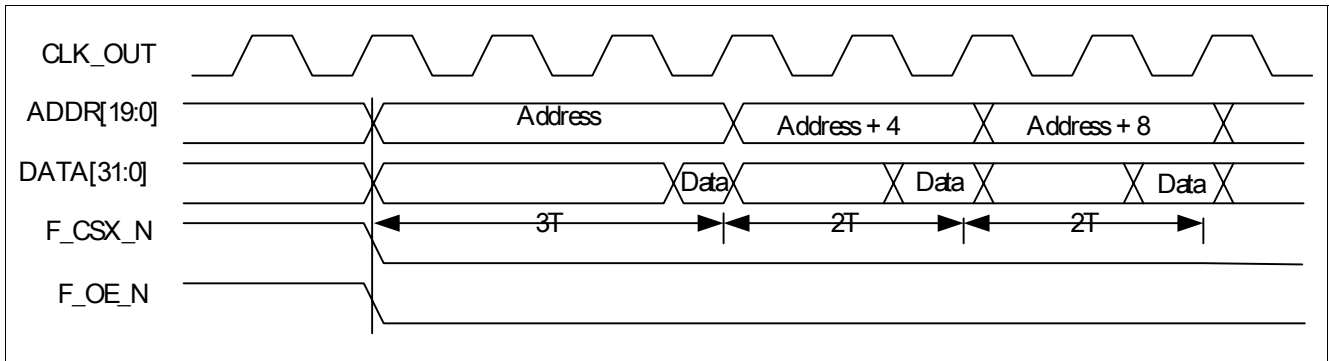

Figure 8 Asynchronous Page Mode Read with 2 Wait State and 1 Sequential Wait State
- The MPMC supports asynchronous page mode read up to four memory transfers by updating address bits A[1] and A[0]. This feature increase the bandwidth by using a reduced access time for the read accesses that are in page mode. The first read access takes **MPMC Static Wait Rd 0** and WAITRD cycles. Subsequent read access that are in page mode take **MPMC Static Wait Page 0** and WAITPAGE cycles. The chip select and output enable lines are held during the burst, and only the lower two address bits change between sunsequent accesses. At the end of the burst the chip select and output enable lines are deasserted together. The **Figure 8** shows the page mode read with 2 WAITRD cycles and 1 WAITPAGE cycle.